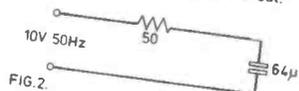

FIG. 2.
- In Fig. 2 the voltage across the capacitor will be about: